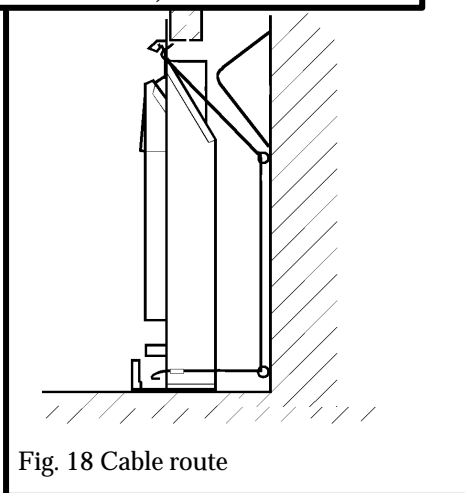

Fig. 18 Cable route
7.2.5 Thread the cables through the upper eyebolts in the rear wall and then through the lower eyebolts. Return the cables through the holes near the bottom of the convection box back panel and through the "V" shaped brackets near the bottom front sides of the convection box (see figure 18).